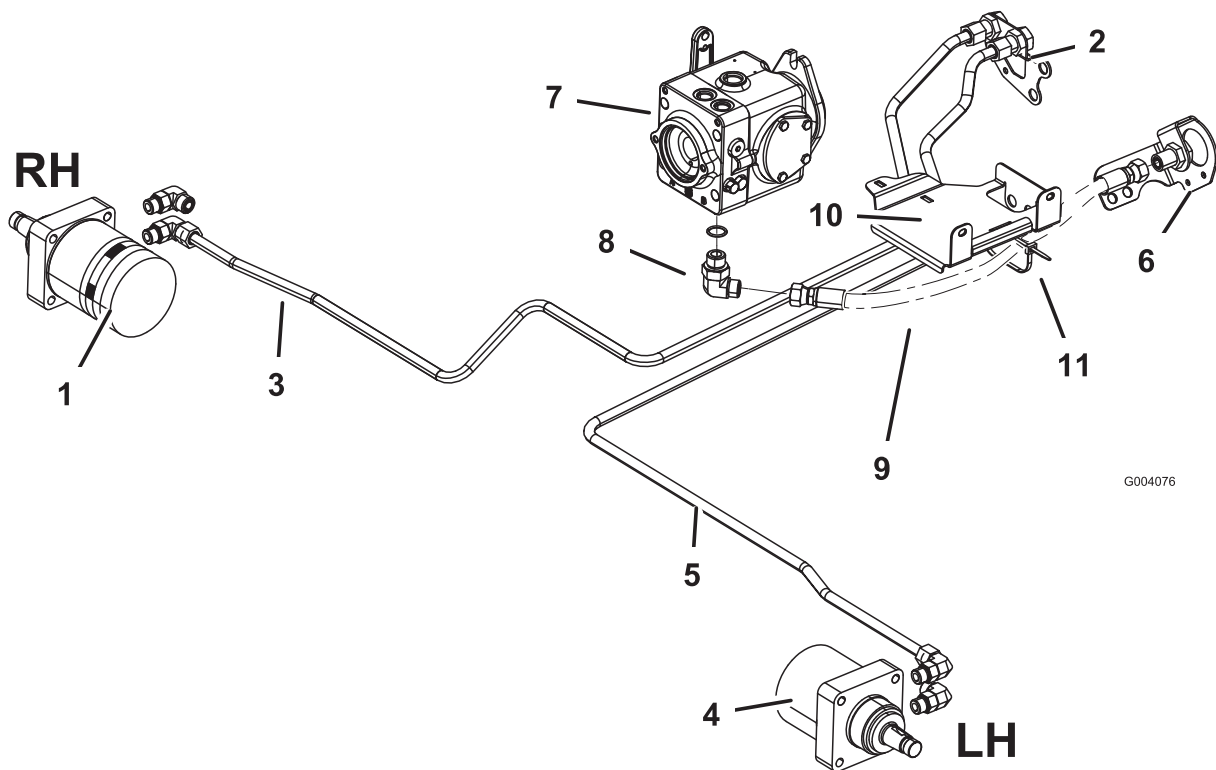

Figure 11
1. Connect hydraulic tube, part no. 108-7622, to the right wheel motor fitting and to the right hydraulic tube in the right frame bulkhead (Figure 11).
2. Connect hydraulic tube, part no. 108-7623, to the left wheel motor fitting and to the left hydraulic tube in the right frame bulkhead (Figure 11).
3. Install a 90 degree hydraulic fitting into the bottom of the variable pump (Figure 11).
5. Secure the hydraulic hose to the bottom of the battery tray with a cable tie (Figure 11).